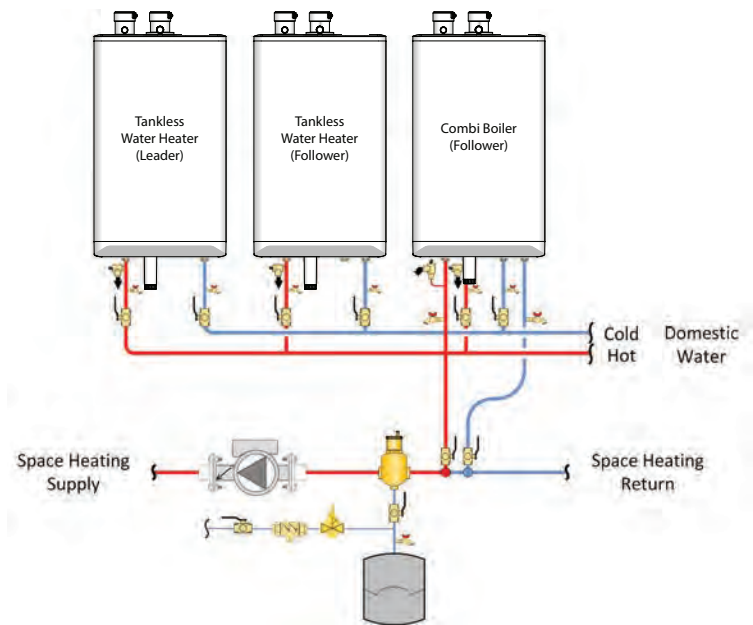

Figure 2: Typical Tankless Water Heater and Combi Boiler cascade piping – concept drawing. This drawing is only a simple schematic guide
Tankless Water Heater cascade systems should utilize an appropriately sized common header as shown in Figure 2. Reference Table 6 for minimum common domestic hot water header sizing.
4. **Enable cascade function (P130)** – Enable the cascade function of each unit according to the cascade system type. The cascade function of Tankless Water Heaters can only be enabled for DHW (P130 = 1). The cascade function of Combi Boilers can be enabled for any combination of space heating / DHW (P130 = 1, 2, 3) depending on the application. A Combi Boiler will respond to any local demand not enabled for cascade, see Figure 2.